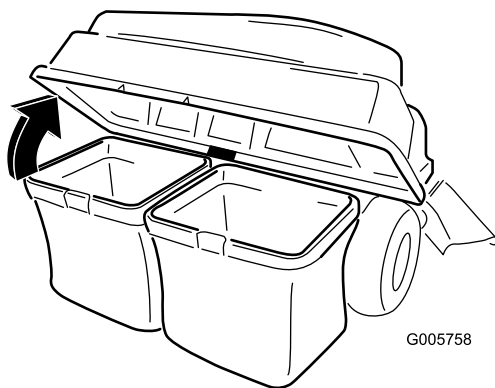

Figure 29
3. Open (raise) the bagger top (Figure 29).